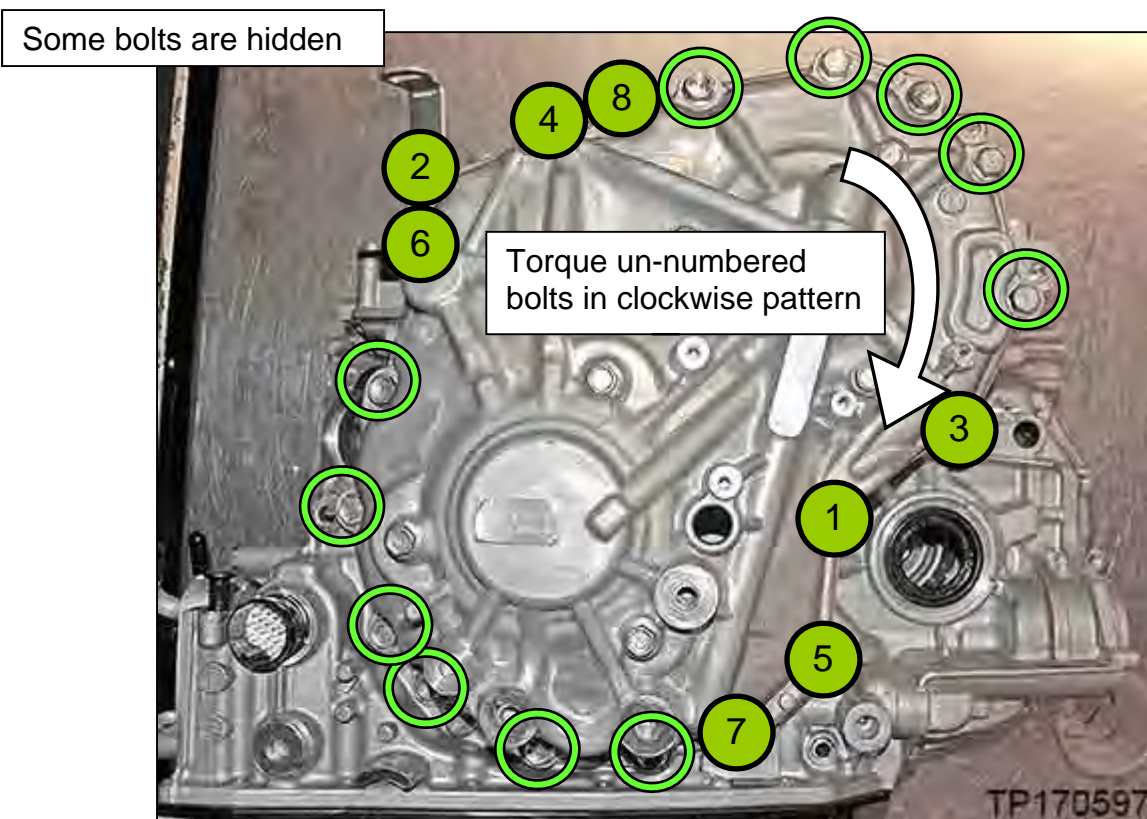

Figure 121
94. Remove the two (2) CVT Assembly Guide Pins (# J-51959).
95. Install the sub-assembly side cover with nineteen (19) new side cover bolts to the CVT case (Figure 121).
- Torque the first eight (8) bolts marked as ● in the sequence numbered in Figure 121 below, and then torque the rest of the bolts in a clockwise manner.